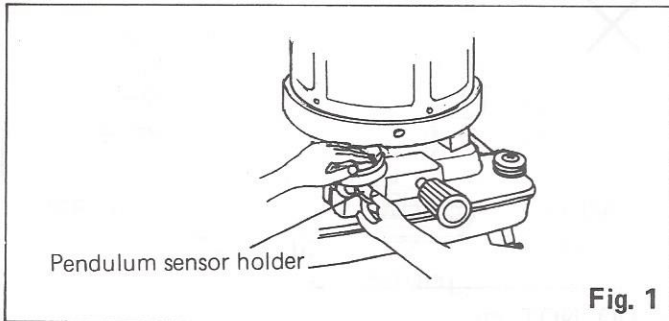

Fig. 1
2. While holding the extinguisher cover and the pendulum, pull out and remove the pendulum sensor holder of the automatic extinguisher unit. (Fig. 1)